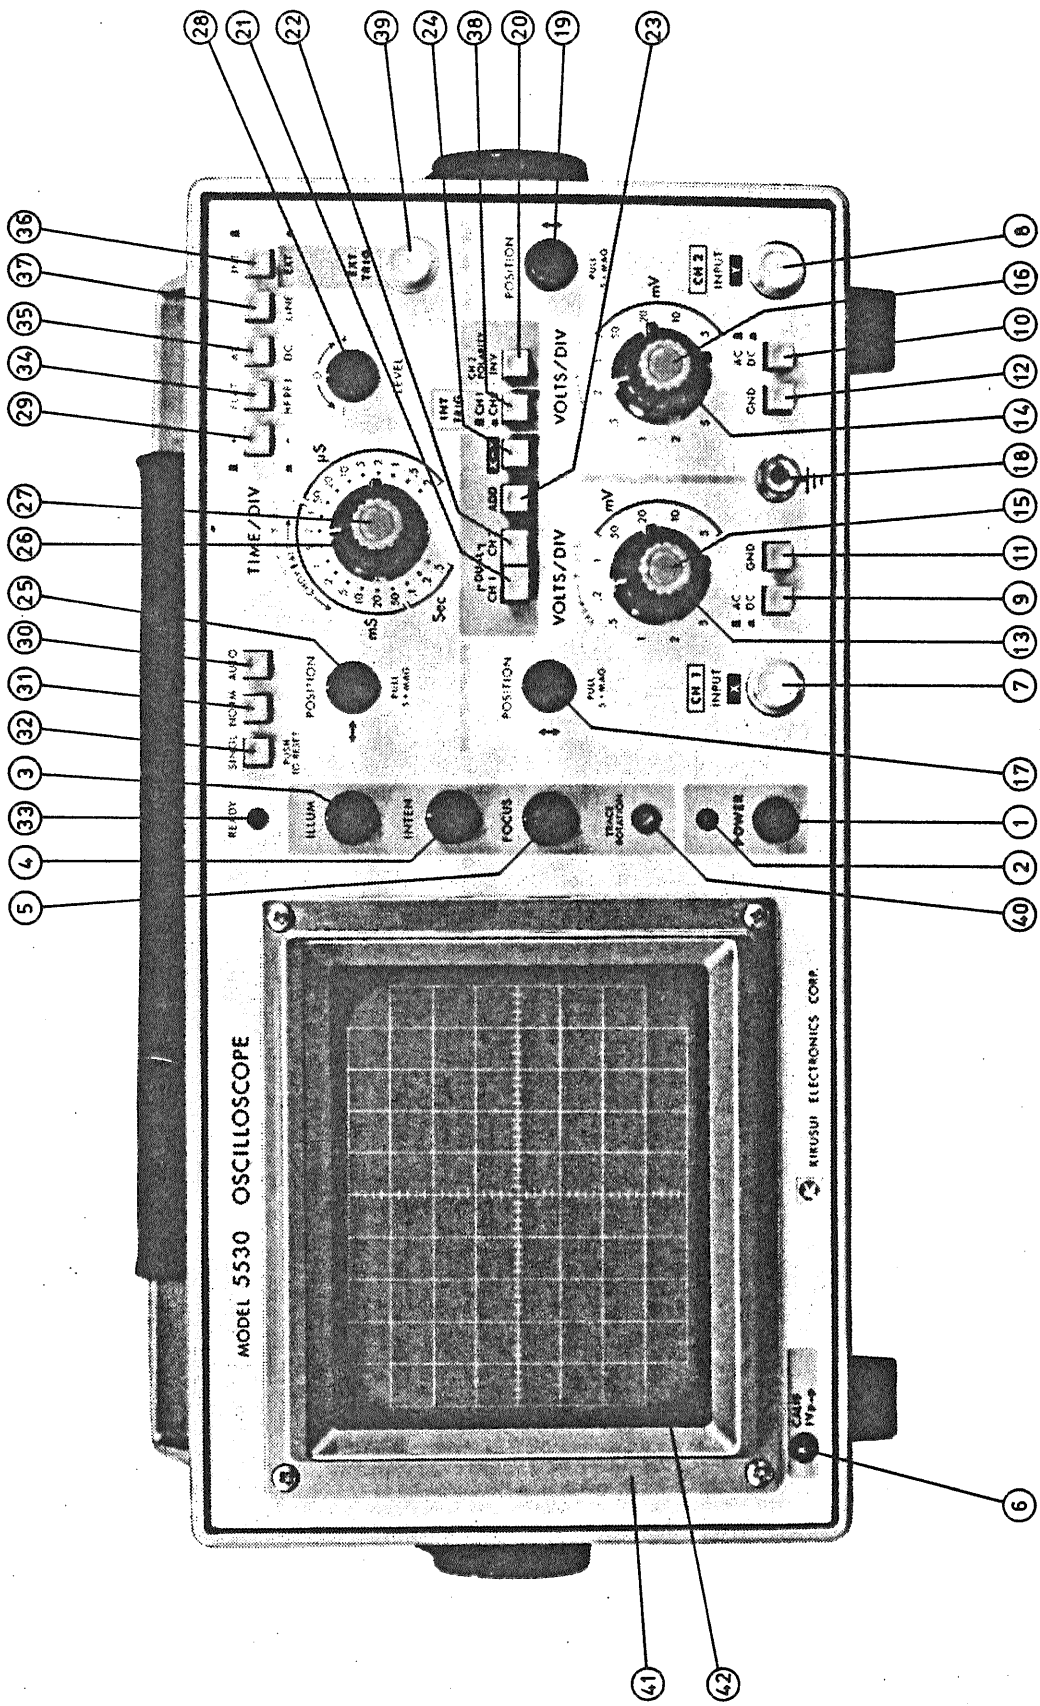

Fig. 1
3.1 Explanation of Front Panel (Fig. 1)